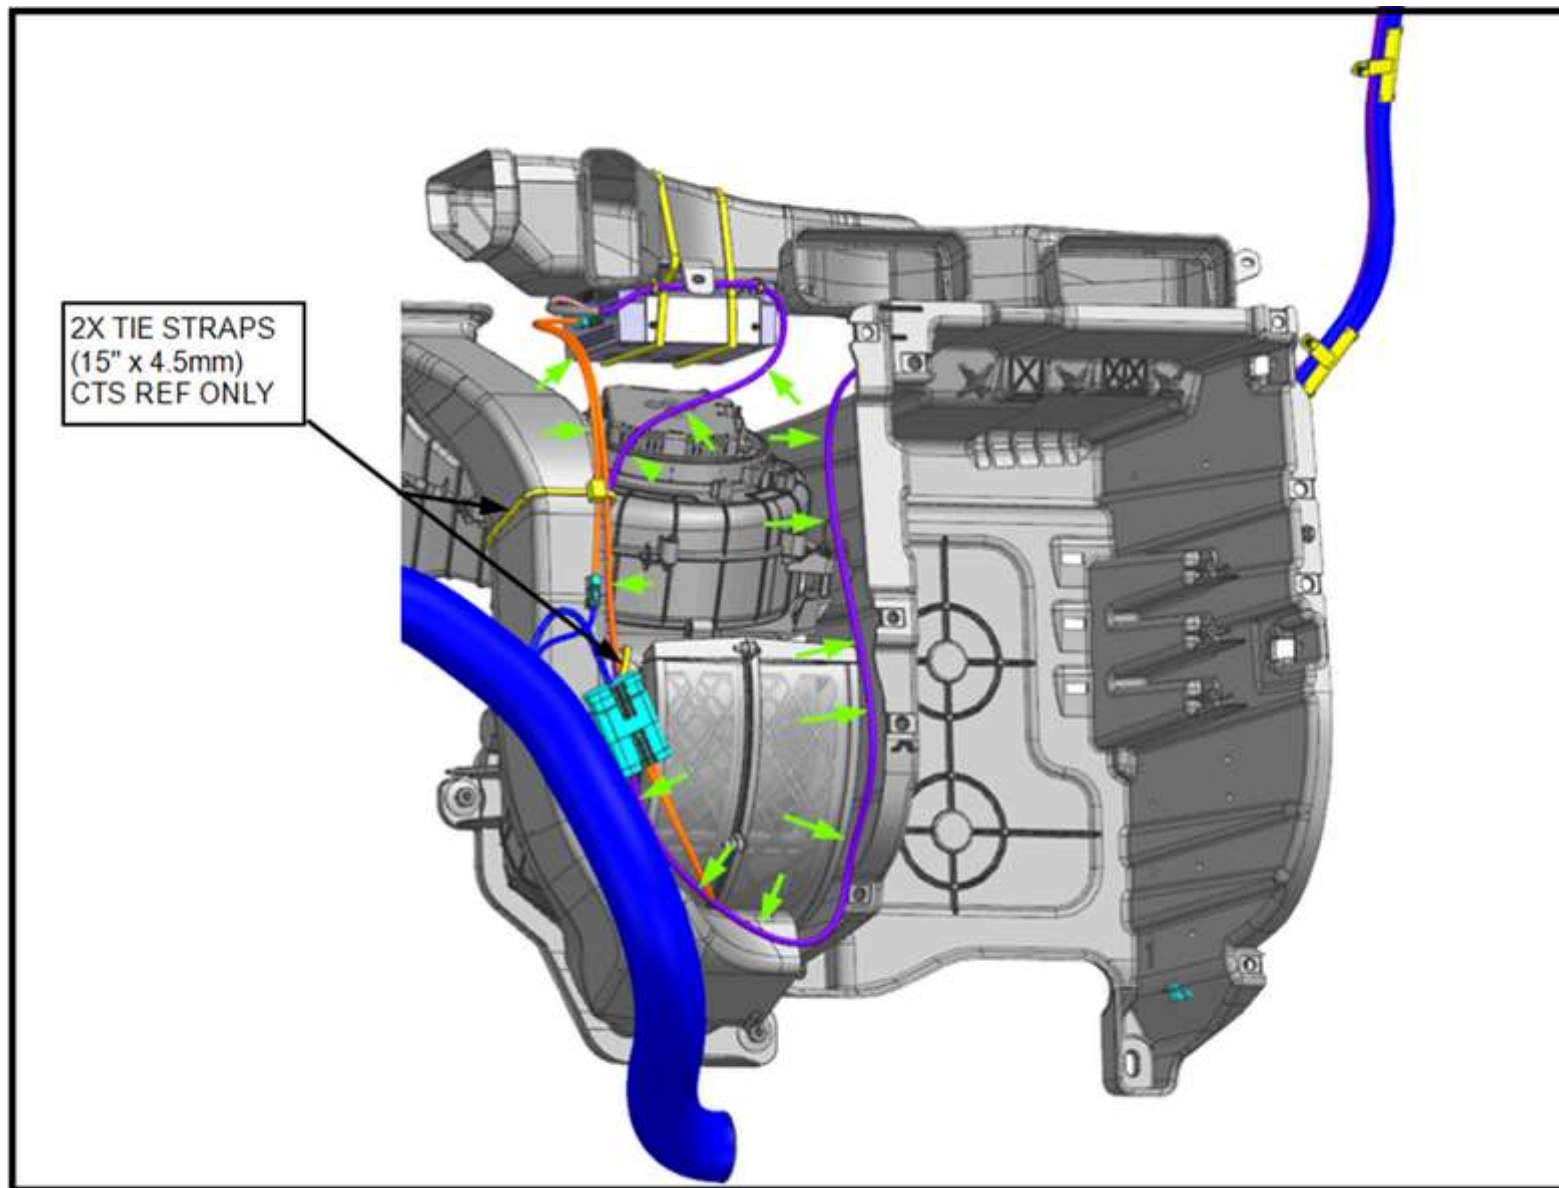

Figure 6
4. Route the wires and cable going to the Lytx ECU per the green arrows in Figure 6. Install 2 15"x4.5mm tie straps to the HVAC ducting as pictured in Figure 6, with the upper tie strap going around the air duct and the low tie strap going around air duct/fan mounting bracket. Once the tie straps are secure, make sure to route the rest of the wiring per the green arrows.